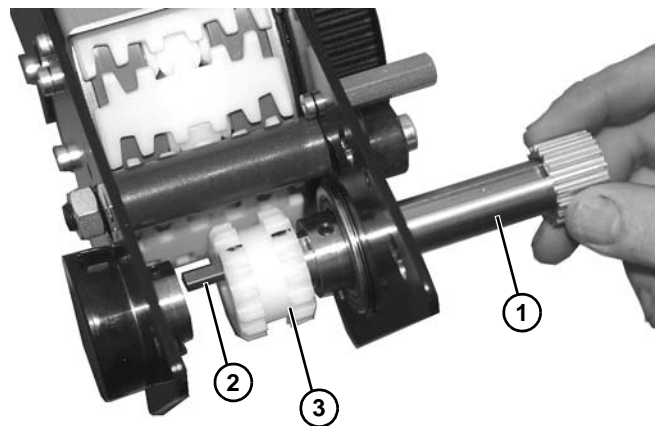

Figure 168
16. Remove drive shaft (**Figure 168, item 1**), making certain not to loose key (**Figure 168, item 2**) when removing gear (**Figure 168, item 3**).